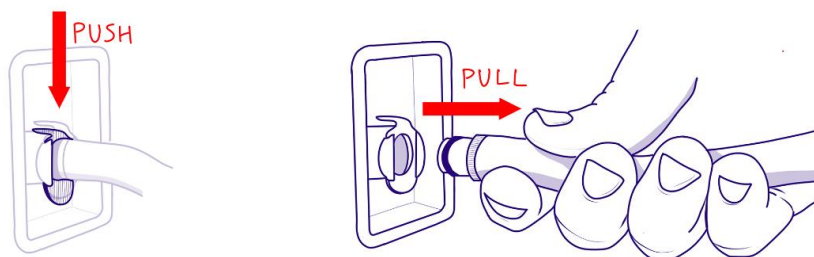

Figure 7 – Emptying tank kit
8. Disconnect the emptying tank kit from the valve in the water bath through the metallic locking device placed over the emptying valve (see Figure 7).